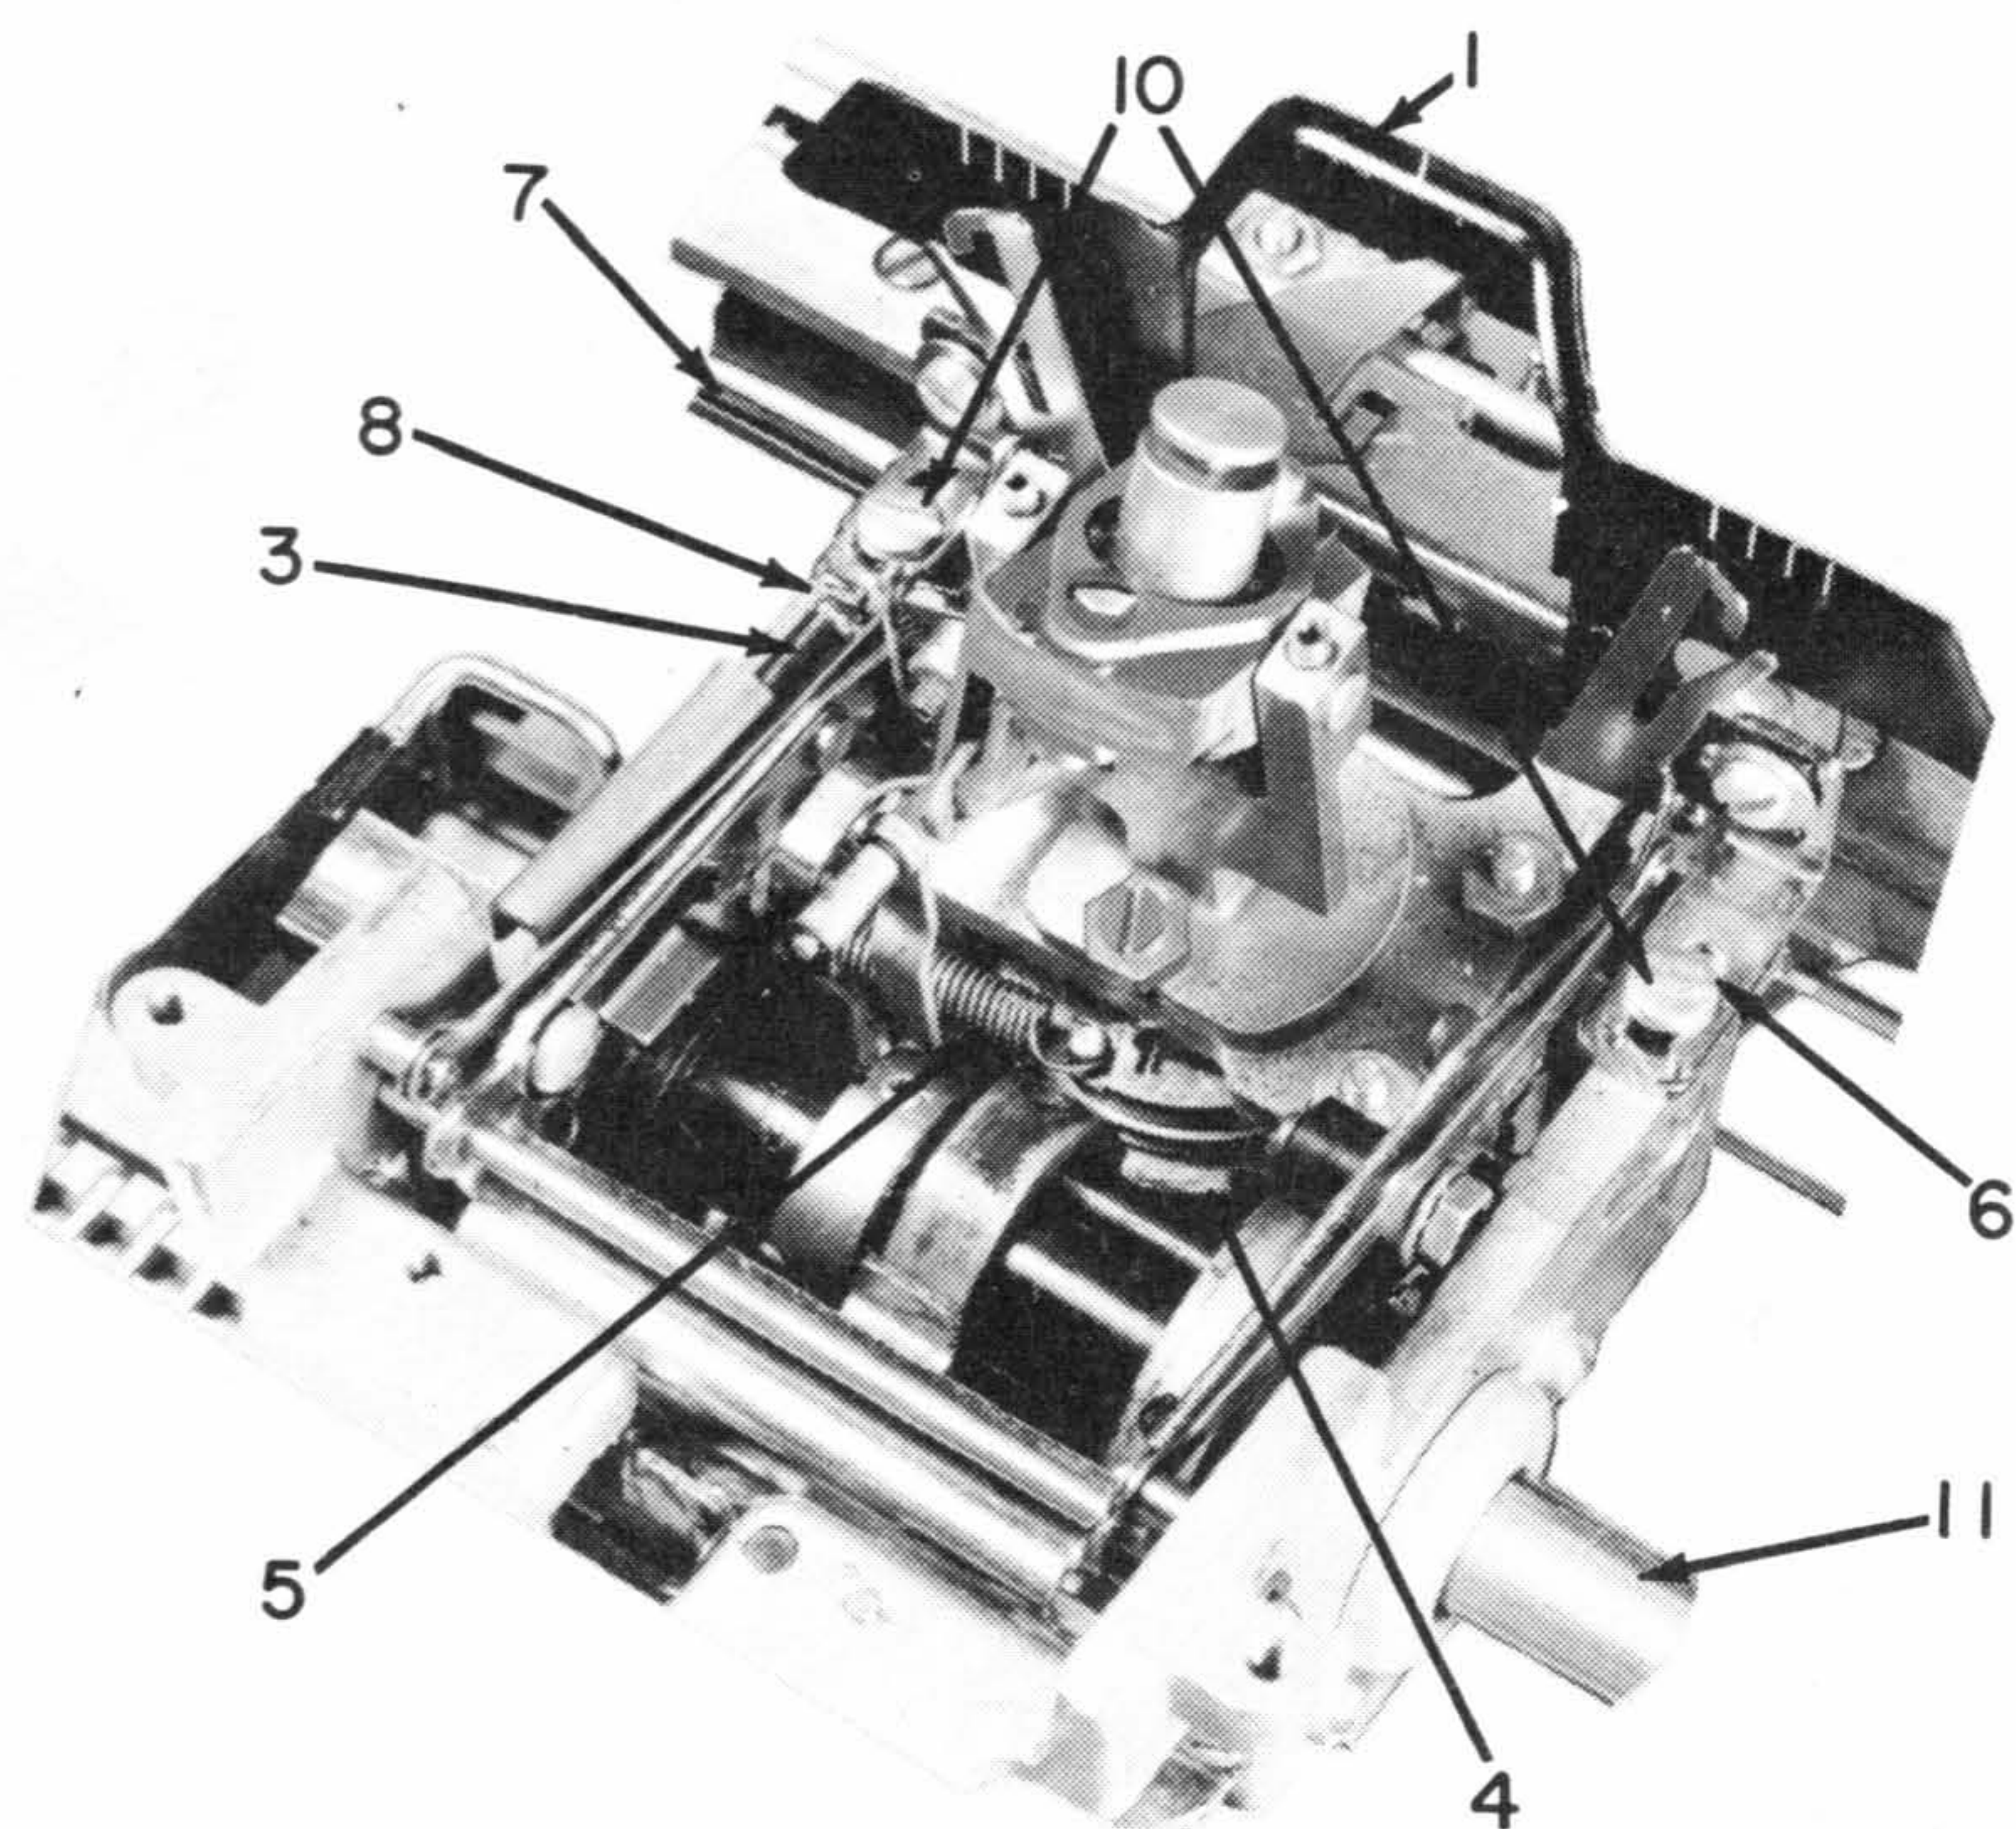

Figure 58. Carrier and Rocker Removal
2. Remove card holders (#1, Figure 58).
3. Disconnect ribbon lift spring (#3, Figure 58).
4. Release rotate spring tension (#4, Figure 58).
5. Remove tilt pulley spring (#5, Figure 58).
6. Remove tape anchor screw (#6, Figure 58).
7. Remove tapes (#7, Figure 58).
8. Remove tape wiper (#8, Figure 58) if present.
9. Remove escapement bracket mounting screws (#10, Figure 58).
12. Remove print shaft (#11, Figure 58).